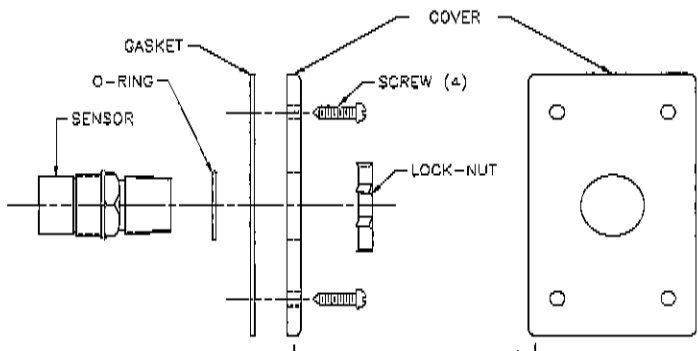

Figure 35
- Once the Card Test options have been selected, the user will either enable or disable the password option (figure 35). The display will indicate either **PE**, for enabled or **Pd**, for disabled. Password Disabled is the factory default for this selection.
General Monitors produces a Duct Mounting Plate (P/N 10041) for applications that require the sensor to be mounted in an air-conditioning or heating duct. The Duct Mounting Plate is easy to install (figure 35).